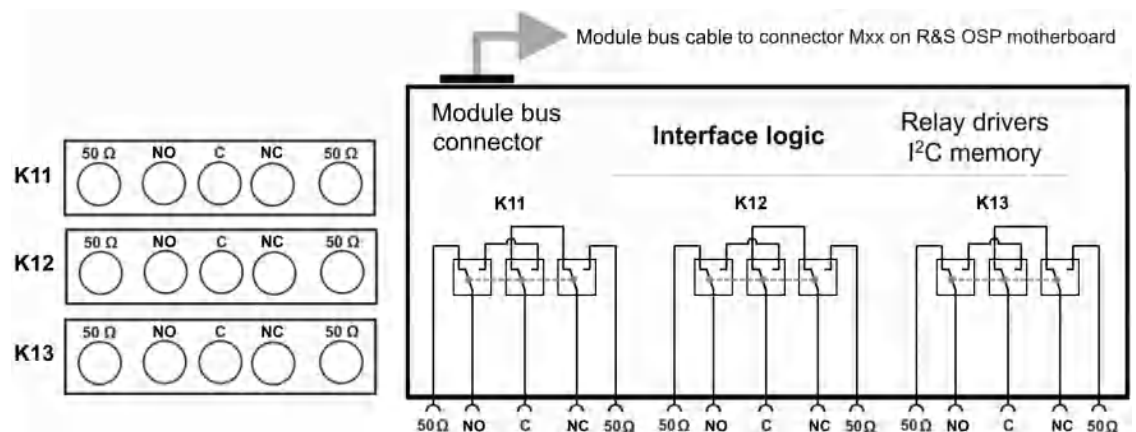

Figure 3-80: Pinout and block diagram of RF switch module R&S OSP-B121E
- **External** termination of the NO and NC ports, see Figure 3-80
The pinout and block diagram of the module R&S OSP-B121H is the same as in Figure 3-80.
The pinout and block diagram of the module R&S OSP-B121U is the same as in Figure 3-80. But in the module versions with less than 3 SPDT relays, the relays with the highest Kxx numbers in the range from K11 to K13 are not available.